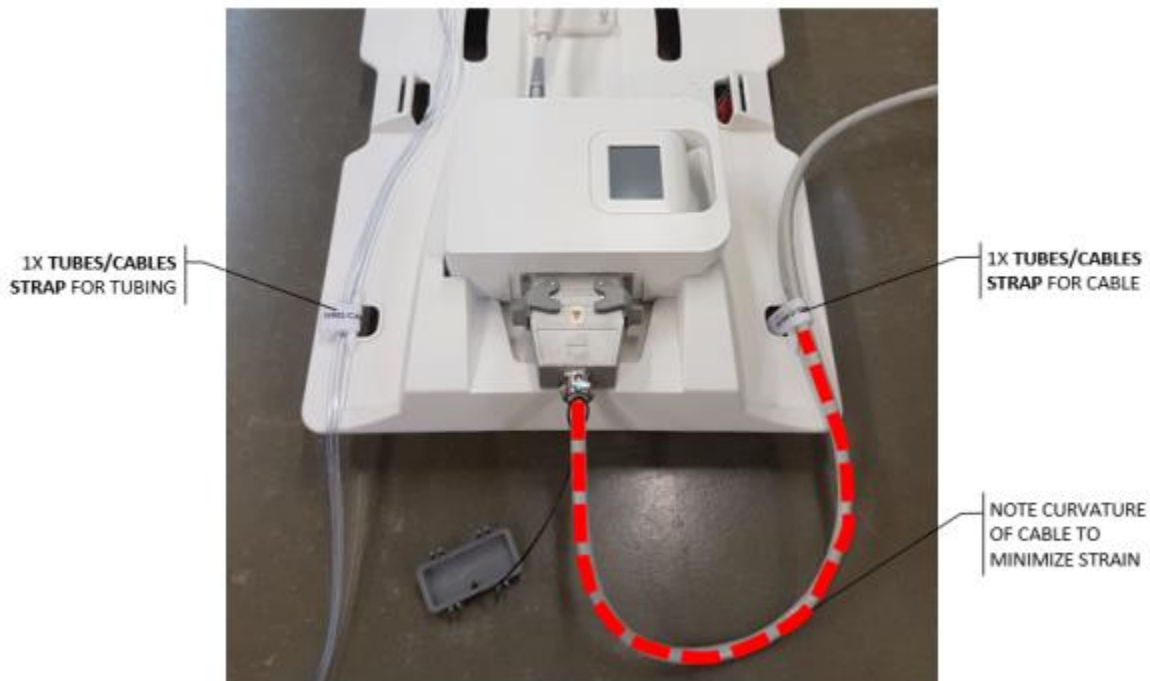

Figure 27: Tube-and-cable straps of base plate: one for tube sets and one for RF cable
4. MRI Technologist: Use tube-and-cable straps to manage fluid tubes and the white RF cable as shown in *Figure 27*. Leave some slack to allow the cables to slide freely and to reduce tripping hazards. Ensure no cables, tubing, or other materials can be caught while the MRI table is moving.